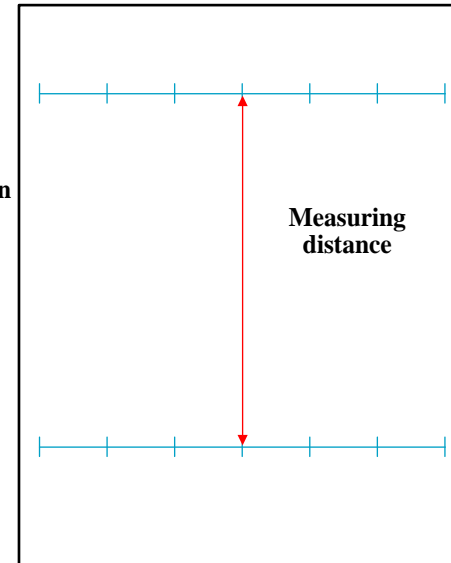

Figure 5-67. Adjustment Pattern
4. Measure the distance as shown in **Figure 5-67**.
4. Measure the distance as shown in Figure 5-67.